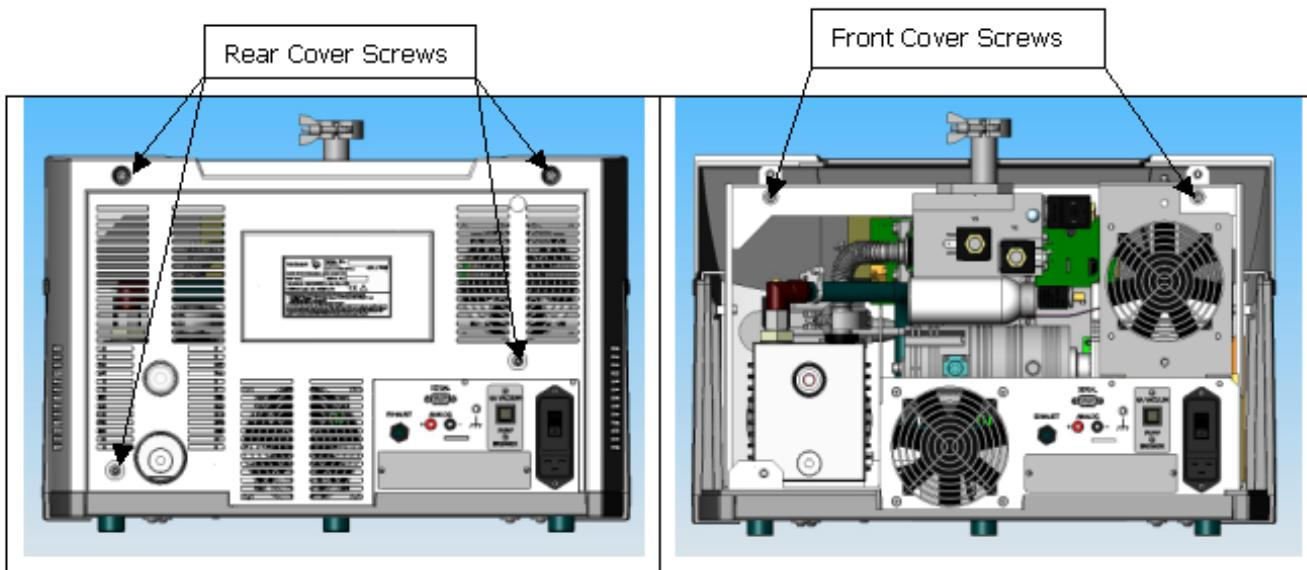

Figure 15: Rear and Front Cover Screws
3. Using an extended length M5 Allen wrench, remove the four screws holding the rear plastic cover (Figure 15: Rear and Front Cover Screws) and detach the rear plastic cover from the unit.